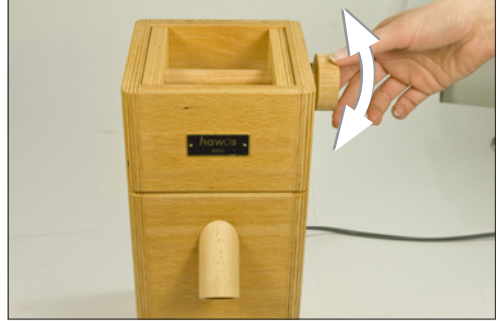

Figure 1: Turn the adjusting wheel to set the fineness.
- Slowly turn the wheel back to "fine" (page 4, figures 1–3)